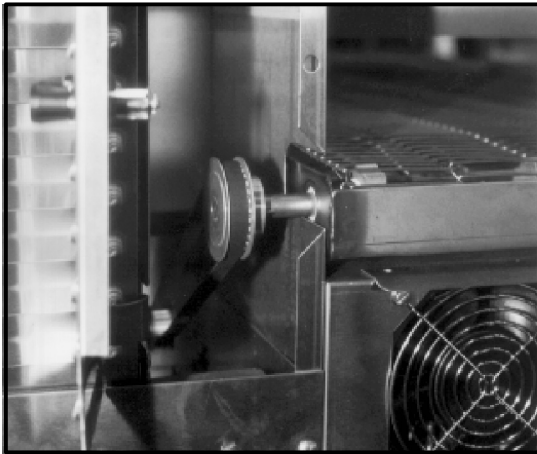

Figure 6
1. Slide the conveyor assembly through the left hand tunnel opening until the sprocket is inside the control box. See Figure 6.